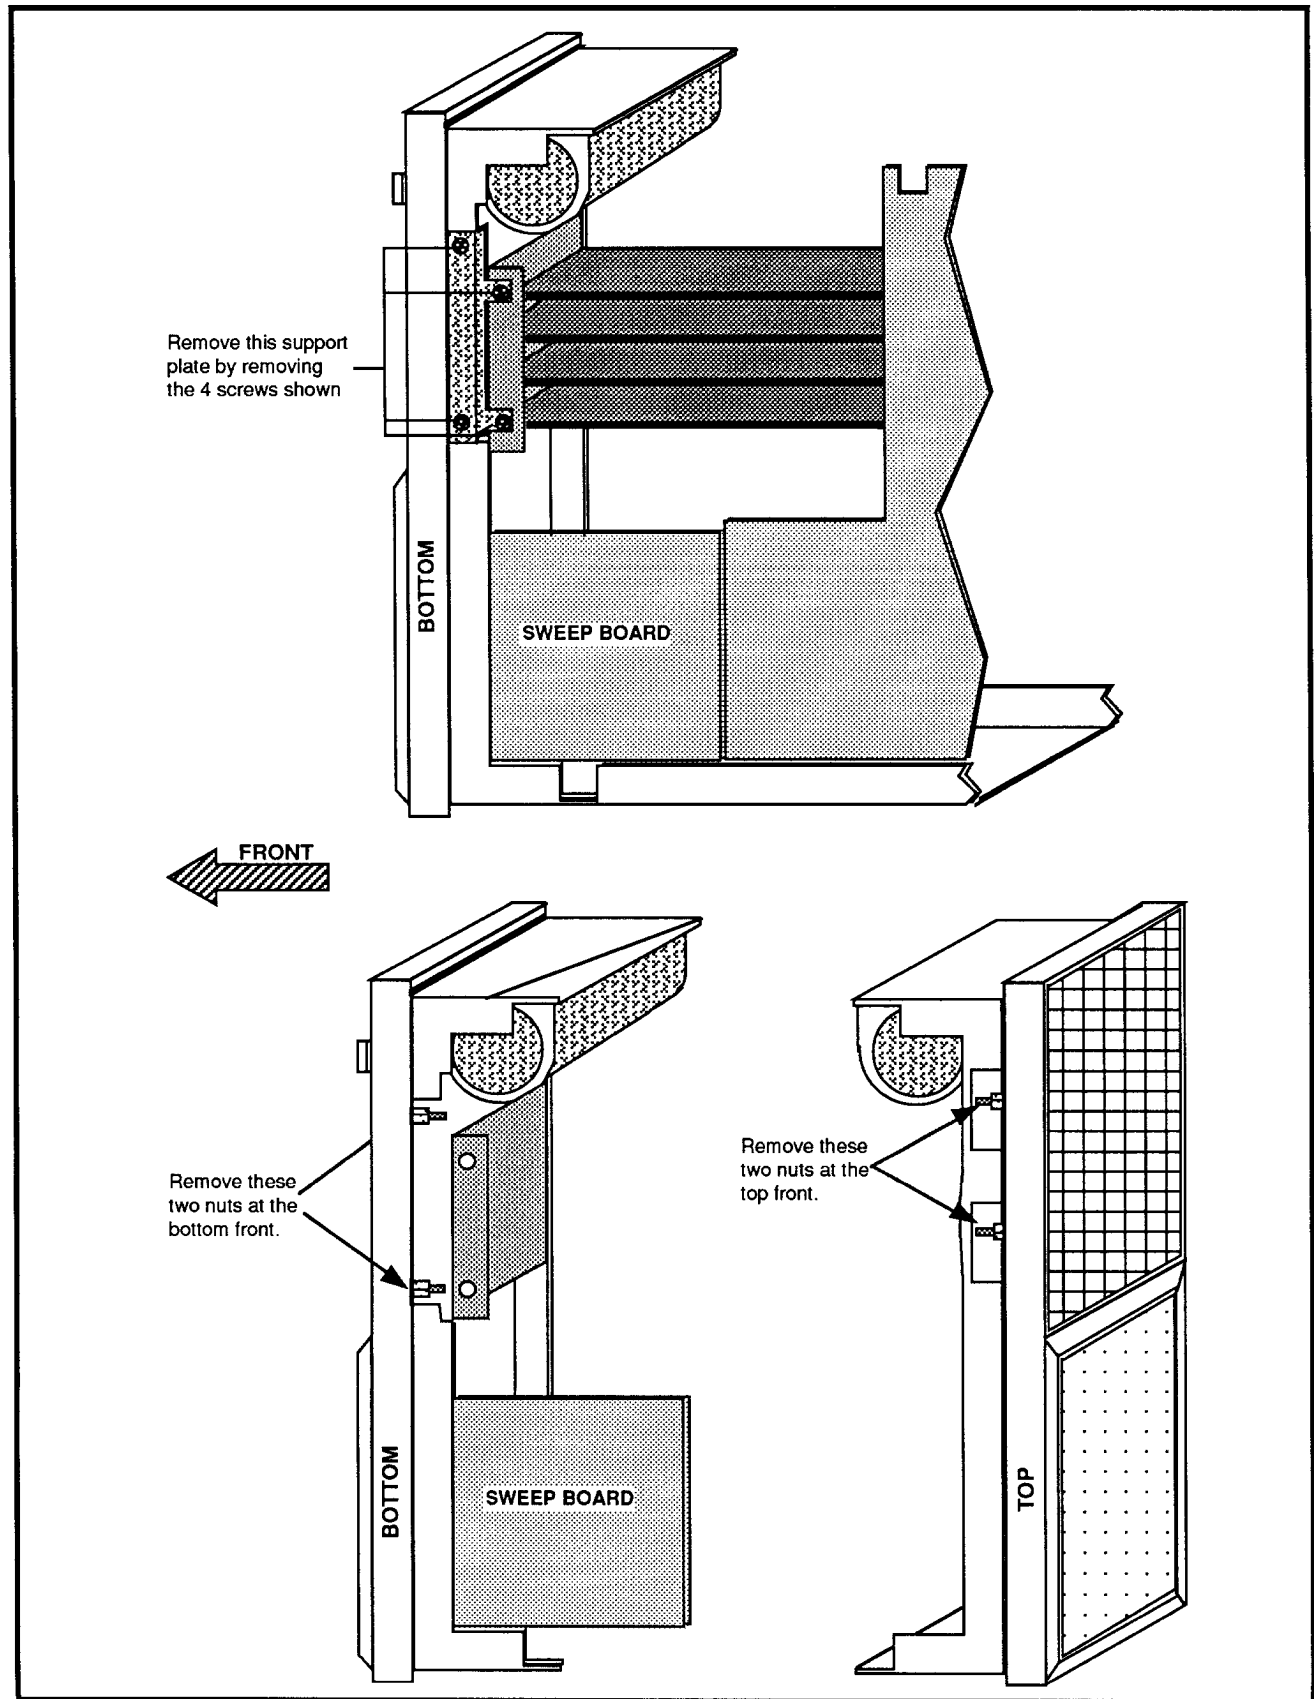

Figure 5-6. Removing the Front Panel.
3. Remove four screws from the bottom front of the instrument as shown in Figure 5-6 to gain access to the two bottom retaining nuts.
4. Remove the bottom two front-panel retaining nuts (Figure 5-6).
5. Remove the top two front-panel retaining nuts (Figure 5-6).